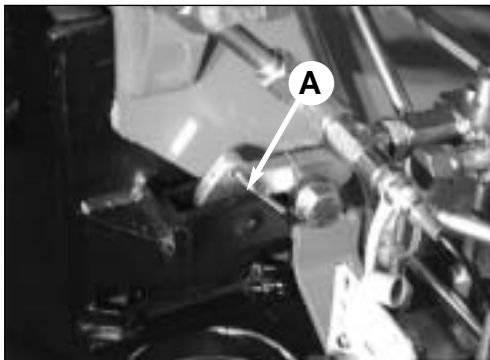

fig. 23
- Disengage the locking devices of the outrigger supports by putting the levers **A** from the position of the fig. 23 to the one of the fig. 23a.
Under no circumstances put the hands on the locking devices of the outrigger supports; The device re-hook (lever **A** from position of fig. 23b to fig. 23) is automatic.
- (!) Always check that the outriggers supports, once in their rest position, are locked in their seat by the safety devices, so as to assure the impossibility of accidental movements. (Fig. 23)